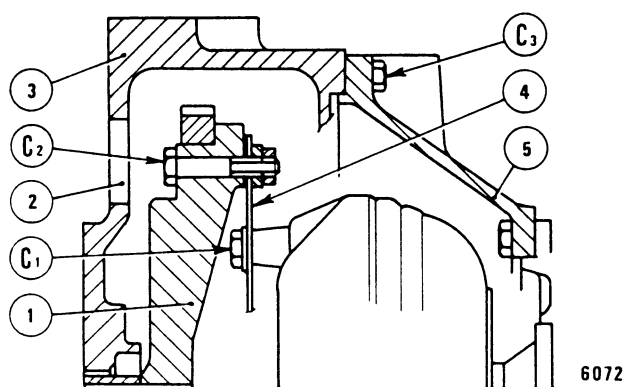

FIG. 3-4 SECTION THROUGH TRANSMISSION TO ENGINE ASSEMBLY ITEMS
- Turn flywheel so that one hole into flywheel for screw (C₂), Fig. 3-4, correspond to opening (2) in housing.
- Turn flex drive joint (4) in order to align the holes of joint and flywheel with opening (2).